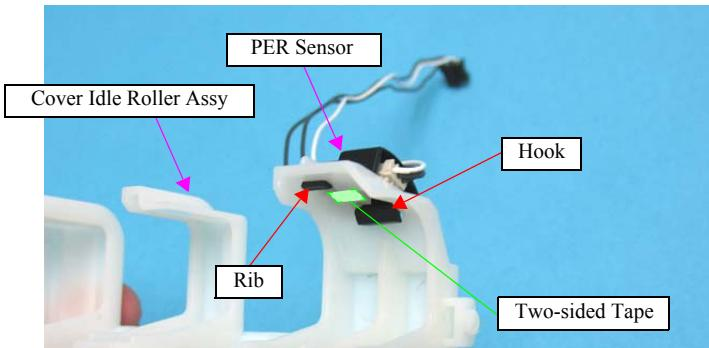

Figure 4-206. Removing the PER Sensor
- When installing the PER Sensor, insert its rib into the hole of the Cover Idle Roller Assy, and then insert the sensor's hook into the hole of the assy as shown in Figure 4-206.